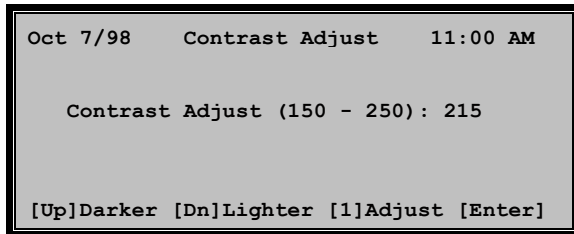

Figure 2-48
- (b) The CONTRAST ADJUST screen (Figure 2-48) will be displayed.